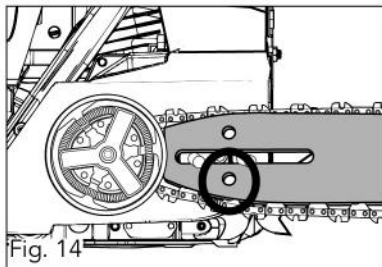

Fig. 14
10. Place the side cover (12) onto the chainsaw. Make sure that the chain tensioning pin fits into the guide bar (10) (fig. 14). If it does not fit, it can be adjusted slightly with the chain tensioning screw (13). The chain (9) must not slip off the guide bar (10) when you do this.